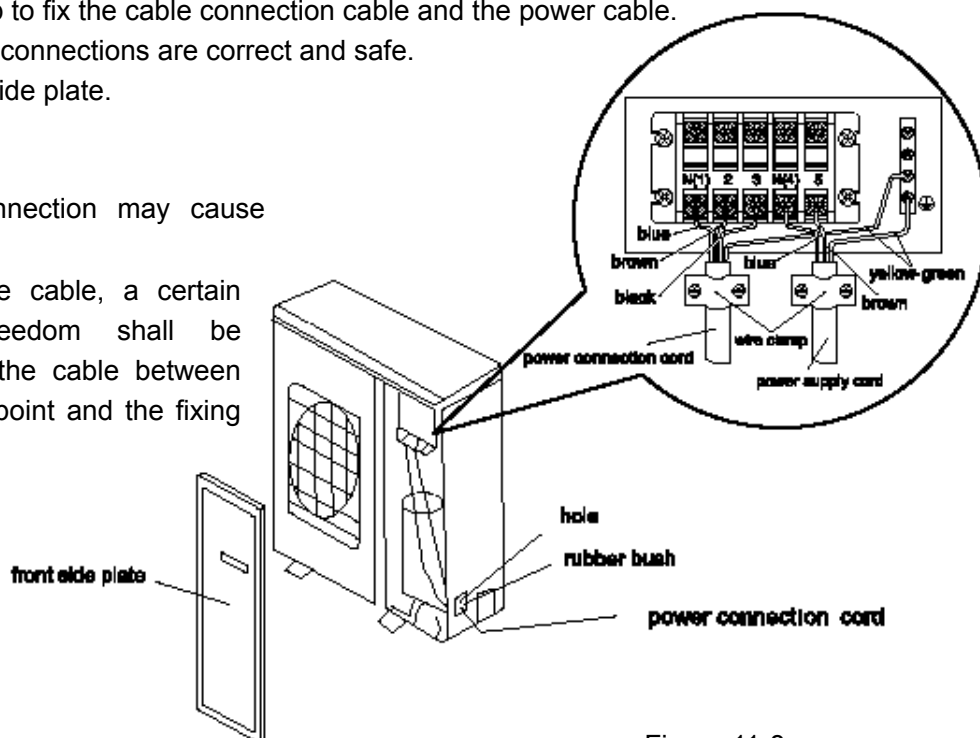

Figure 11-8
- Remove the cable clamp, connect the power connection cable and the power cable with the terminals at the row of connection and fix the connection as shown in Figure 11-8.